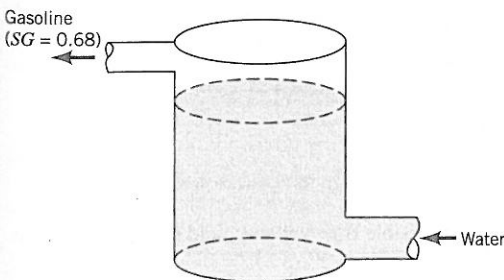

Figure P5.12
5.12 Water enters a rigid, sealed, cylindrical tank at a steady rate of 100 liters/hr and forces gasoline ($SG = 0.68$) out as is indicated in Fig. P5.12. What is the time rate of change of mass of gasoline contained in the tank?